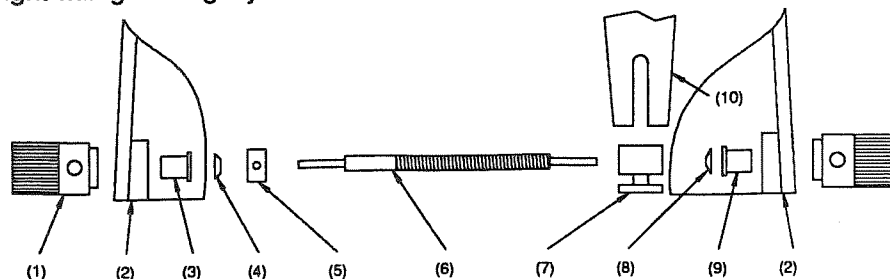

Fig. 14
6. Press the two bronze bushings into the fork arm. The bushing with the large hole (#3, Fig. 14) goes on the *left* side, and the bushing with the small hole (#8, Fig. 14) goes on the *right* side.
7. Starting from the left side of the fork arm, slide the Slow motion screw (#6, Fig. 14) through the bronze bushing with the large hole about one *half* way to the other side of the fork arm.
8. Slide the Spring washer with the large hole (#4, Fig. 14) onto the *right* side of the Slow motion screw. The Spring washer will slide over the threads. Be careful to position the Spring washer so that the larger side is toward the bronze bushing.
9. Slide the Set collar (#5, Fig. 14) onto the *right* side of the Slow motion screw. The Set collar will also slide over the threads.
11. Slide the Spring washer with the small hole (#7, Fig. 14) onto the right side of the Slow motion screw. This Spring washer will only slide up to the thread. Be careful to position the Spring washer so that the larger side is toward the bronze bushing.